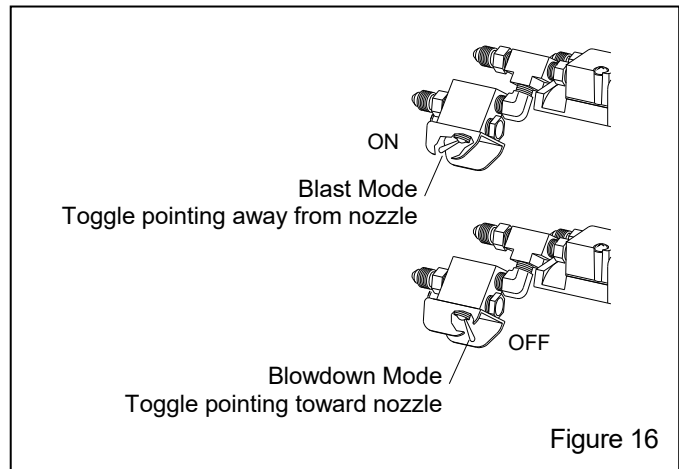

Figure 16
3.4 Operation of the Optional Abrasive Cutoff Switch (ACS) – Figure 16